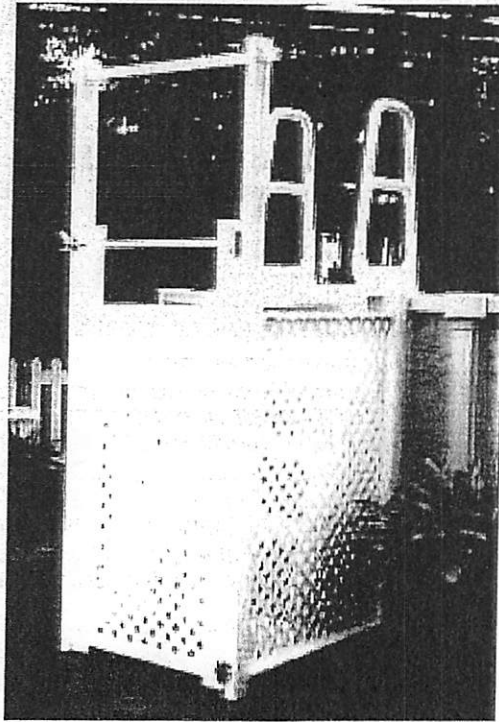

Figure 7
requirements of items 1 through 6. A removable ladder shall not constitute an acceptable alternative to enclosure requirements. (Figure 7, 8 and 9)